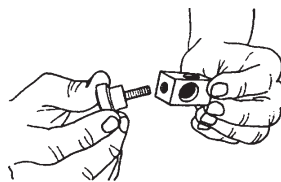

Fig. 14
2. Thread the knob (10) into the clamp (9), as shown in Fig. 14.